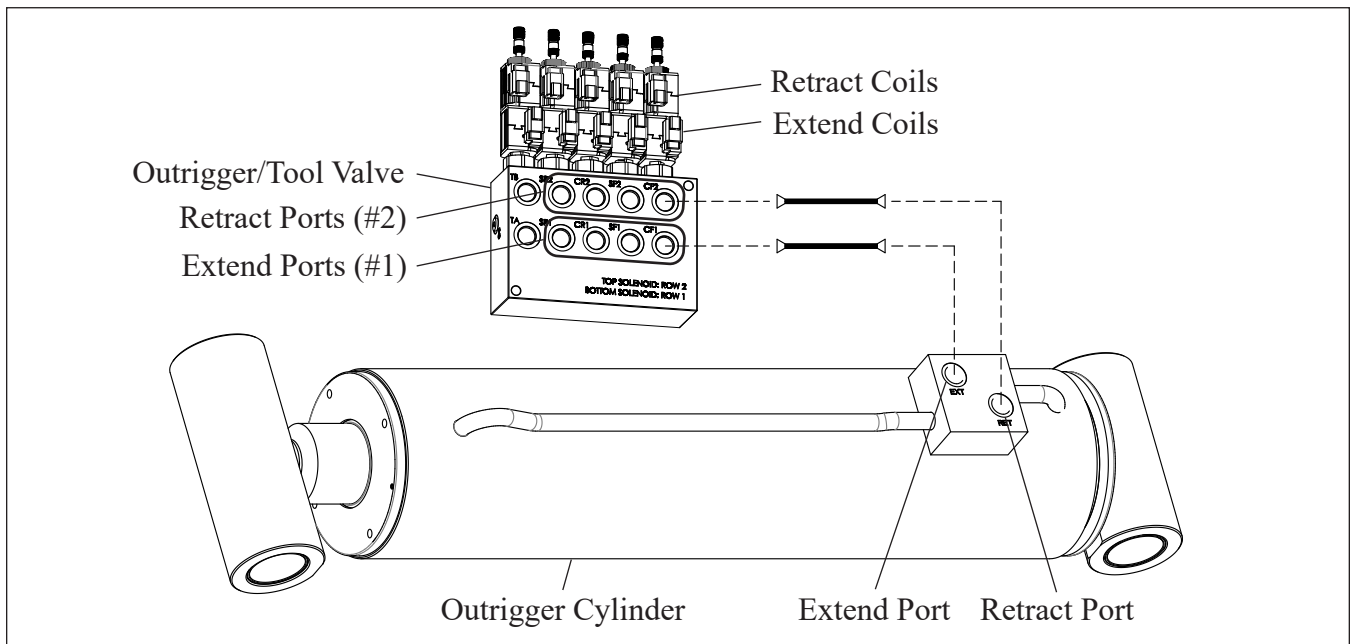

Figure 3 — Proper Valve and Cylinder Hydraulic and Electrical Connections
12. For each outrigger which retracted from its starting position in step 8, perform steps a through d to produce the final hydraulic and electrical connections shown in Figure 3.